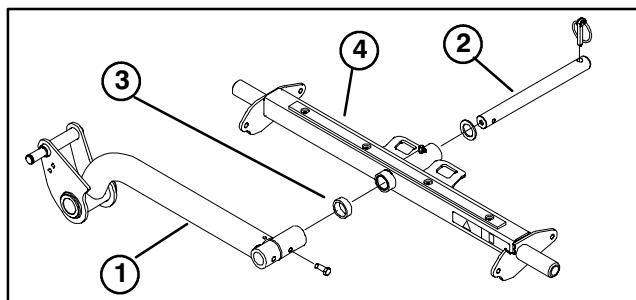

Figure 6
3. Mount new longer pivot shaft to lift arm with capscrew previously removed (Fig. 6). Make sure to use correct O.D. shaft supplied in kit. Discard other shaft.
4. Slide correct I.D. spacer onto pivot shaft (Fig. 6). Make sure to use correct I.D. spacer supplied in kit. Discard other spacer.